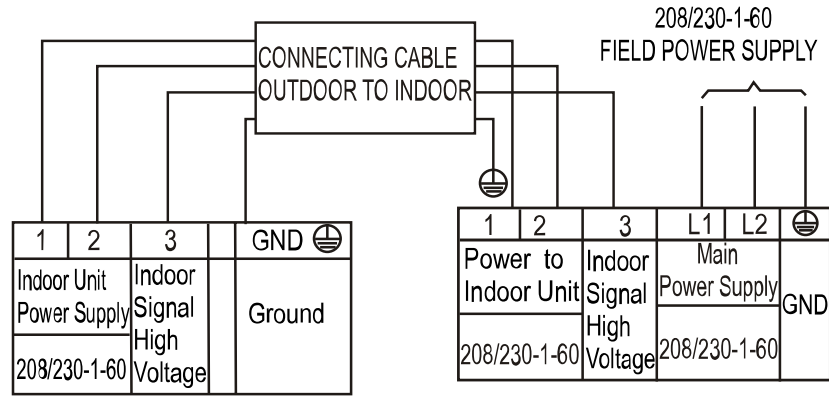

Fig. 23 — Connection Diagram
2. All connections between the indoor and outdoor units must be made as shown in Figure 23. The connections are sensitive to polarity and will result in a fault code.